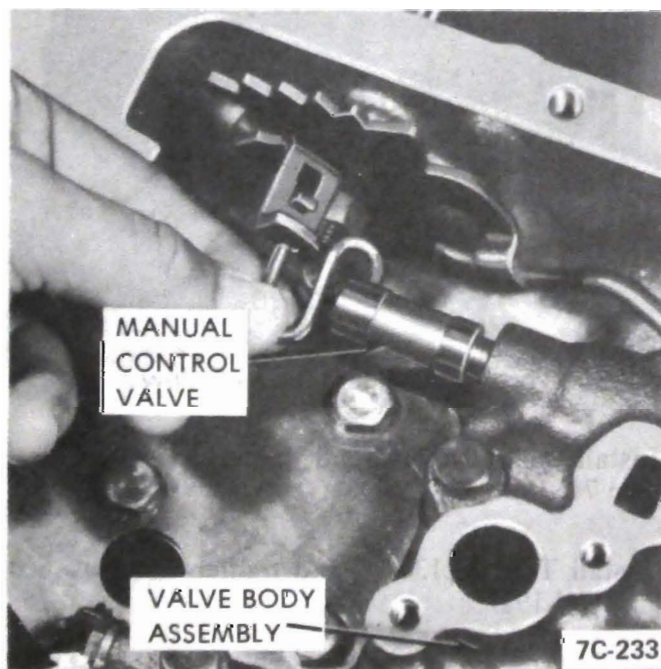

Figure 7C-183
6. Install detent roller and spring assembly to valve body. See Figure 7C-184.